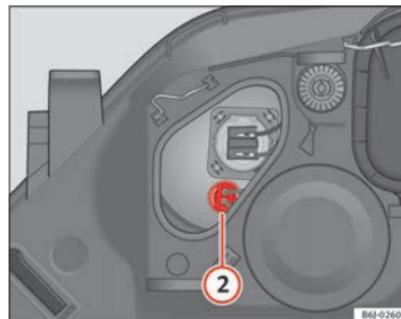

Fig. 150 Side lights
- Remove connector ⇒ fig. 150 ② by pulling outward.